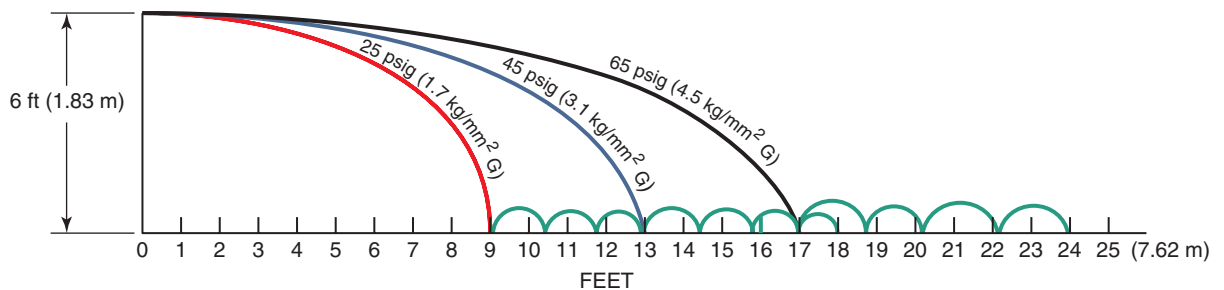

Figure 6.36 Limiting the distance sparks travel
8. With the cutting lever still depressed, reduce the oxygen pressure until the flame lengthens once again. This is the maximum oxygen pressure that this tip can use without turbulence in the cutting stream, which would cause a very poor cut. The lower pressure also will prevent the sparks from being blown a longer distance from the work, Figure 6.36.